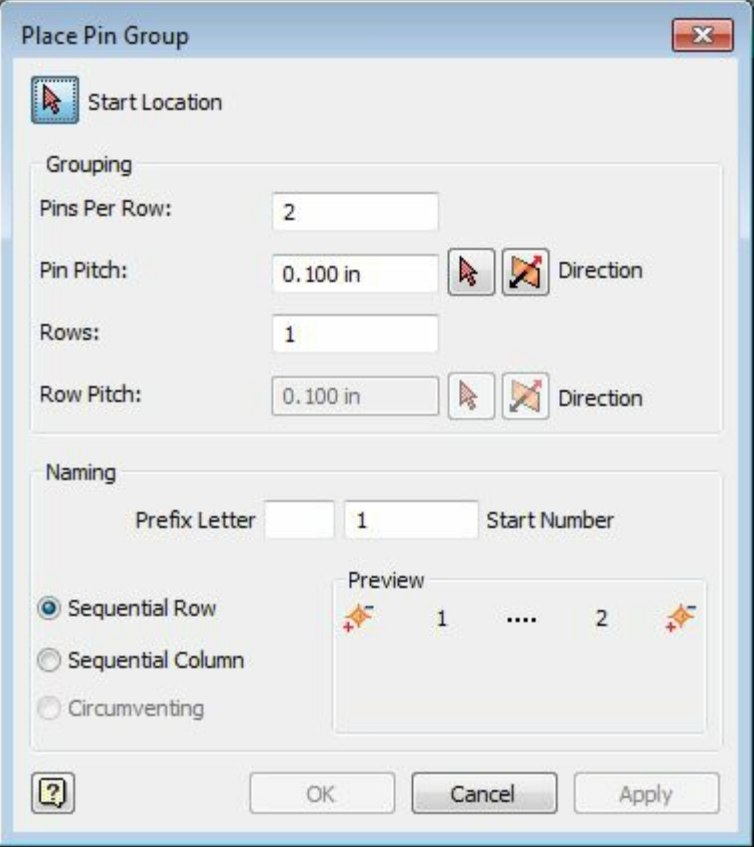

Figure-25. Place Pin Group dialog box
- Click on the **Place Pin Group** tool  from the **Harness** panel in the **Ribbon**. The **Place Pin Group** dialog box will be displayed; refer to Figure-25.